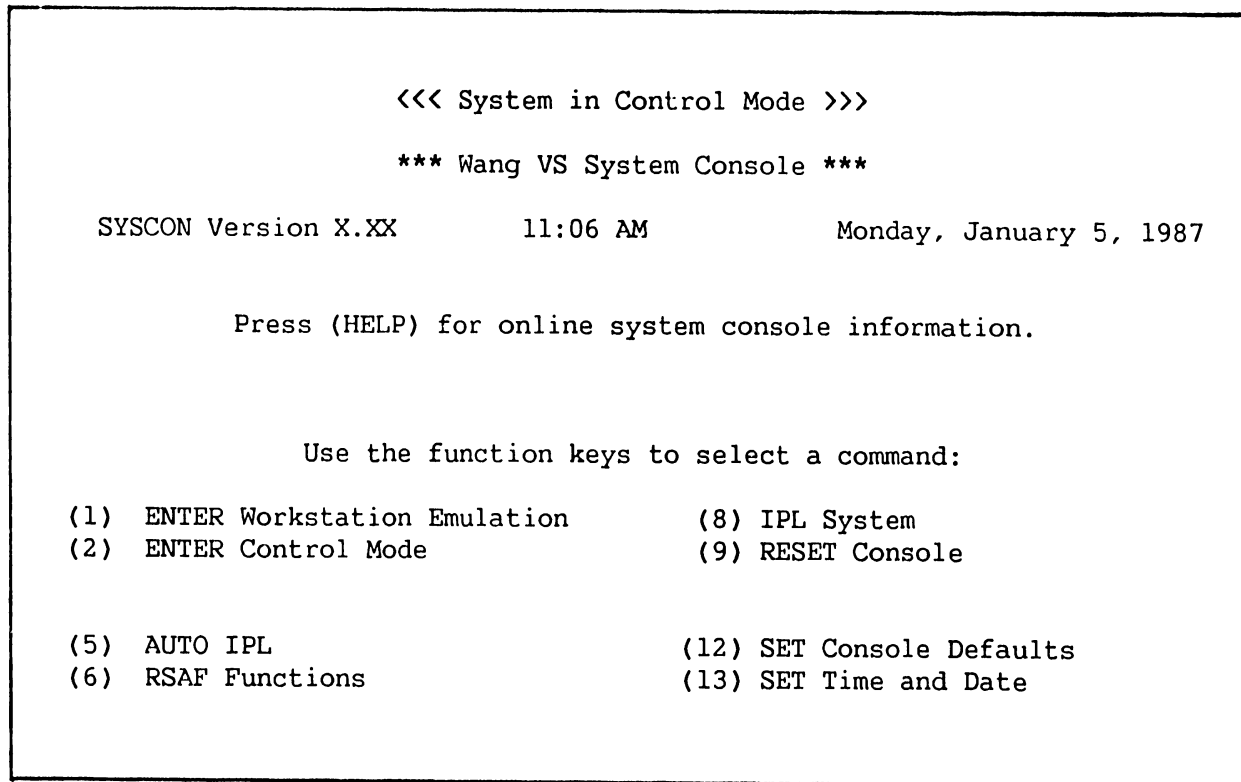

Figure 9-11. Console Processor Menu Screen
10. Press PF16 (Exit) and the Console Processor Menu screen (figure 9-11) reappears.